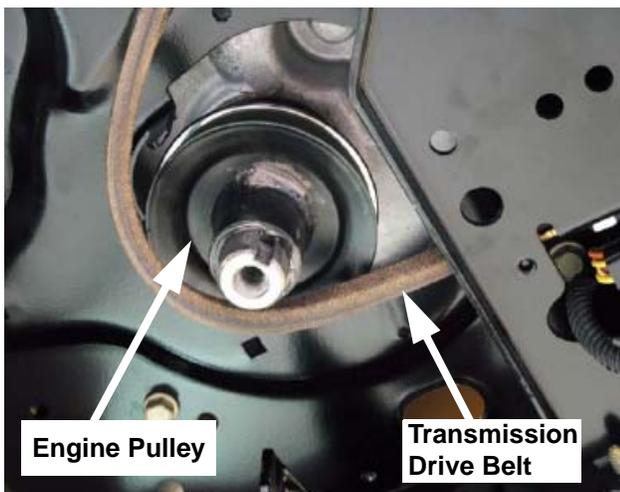

FIGURE 1
7. Inspect the Engine Pulley for any wear or damage. See Figure 1. **NOTE:** Wear is not covered by Warranty.